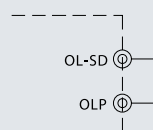

Fig. 5.2 Insert the CN3
- (2) Insert the shorting connector on CN3 that is shown in Fig. 5.2, the O.L.P mode will be "constant current limiting with delay shutdown after 5 seconds, re-power on to recover"